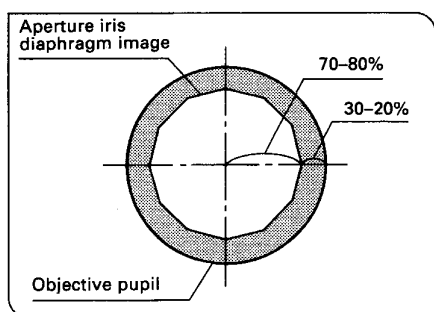
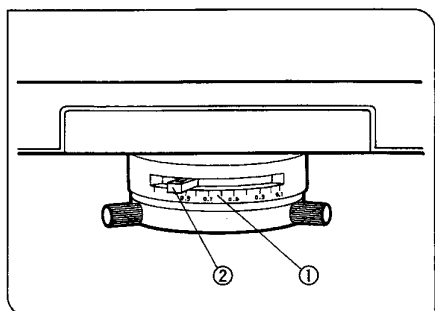

Fig. 23
Fig. 24
2 Aperture Iris Diaphragm (Figs. 23, 24)
- The aperture iris diaphragm determines the numerical aperture of the illumination system. Matching the numerical aperture ① of the illumination system with that of the objective provides better image resolution and contrast, and also increases the depth of focus.
- Since the contrast of microscope specimens is ordinarily low, setting the condenser aperture iris diaphragm to 70-80% of the N.A. of the objective in use is usually recommended. When necessary, adjust the ratio by removing the eyepiece and looking into the eyepiece sleeve while adjusting the aperture iris diaphragm lever ② until the image shown in Fig. 23 is seen. (Fig. 24)
When using 100X oil objective, turn the aperture iris diaphragm knob ② all the way to 0.9 on the scale. (Fig. 24)